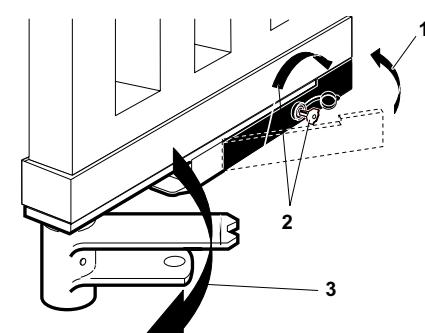

Fig. 17
- push the lever back into its home position (fig. 17-ref. 1);
- insert the release key in the lock and turn it in the direction opposite the post, as far as it will go (fig. 17- ref. 2);
- operate the leaf manually until the lock is engaged in the locking bracket (fig. 17-ref. 3);